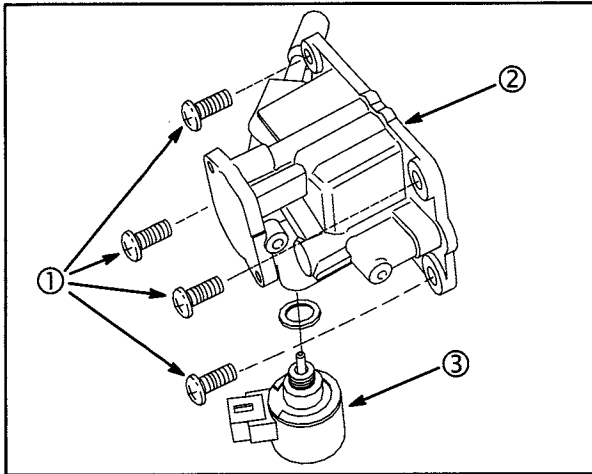

Fig. 130
1. Remove four screws (1) and float bowl (2), **Fig. 130**. Discard gasket.
2. Use 13 mm thin profile wrench to remove fuel solenoid (3) from float bowl. Discard gasket.